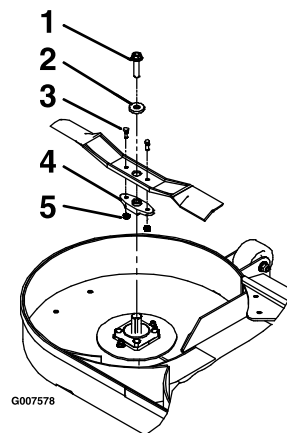

Figure 66
3. Remove the blade, washer, and blade bolt that secures the blade and blade driver (Figure 66).
4. Remove the blade driver from the existing blade (Figure 66).
1. Install the blade driver to the new blades with the shear bolts and locknuts (Figure 66).
3. Install the blade, washer, and blade bolt to the spindle shaft (Figure 66).